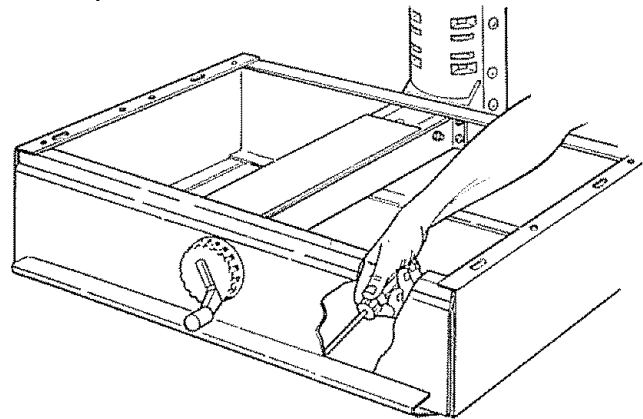

Fig. 39
2. Reach through the top of the *saw* and use four screws to fasten the *trim ledge* in place. Tighten using a Phillips screwdriver. (Figures 39 & 40)